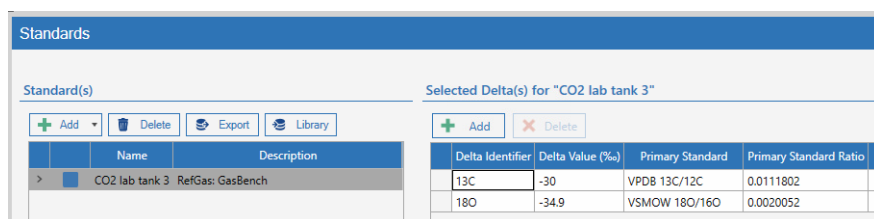
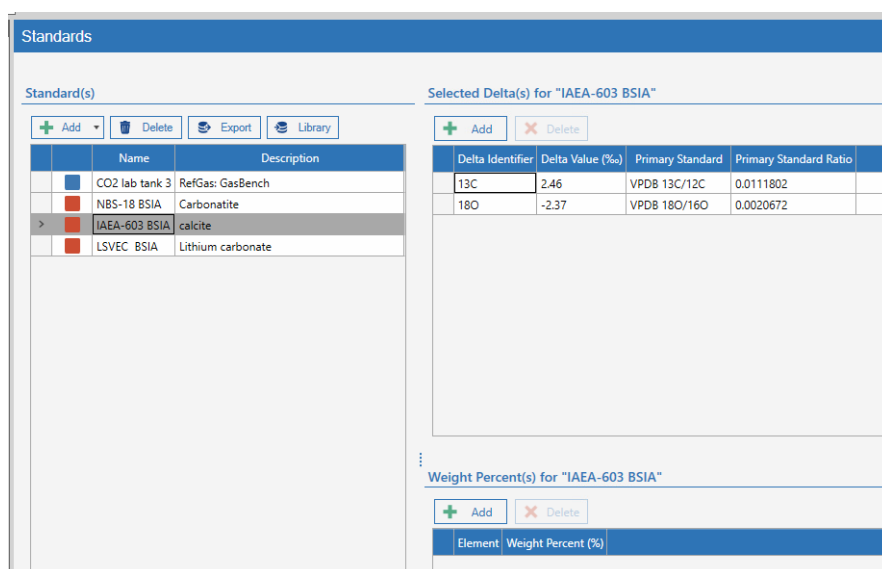

Figure 7-30. Standards. Reference Gas standard
Figure 7-31. Standards. Bulk isotope standard (BSIA)
Refer to the *DELTA Q Operating Manual* for a generic description and adding isotopic standard ratios, exporting standards and importing standards into the LabBook Standard table (location of Standards.st file for backup). For a short example, see Figure 7-30, Figure 7-31, Figure 7-33).
1. “Bulk Isotope standards” - highlighted in a defined color, see Figure 7-31.